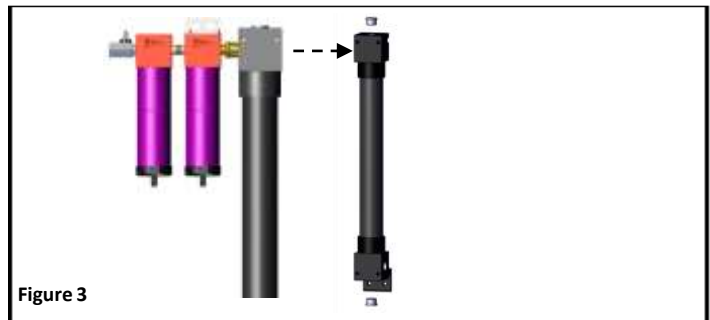

Figure 3
10. Use a 10mm hex wrench to remove the o-ring plugs on the ends of the inlet and outlet end caps of the membrane dryer and install on the side ports of each end cap; do not use thread sealant. *Figure 3*